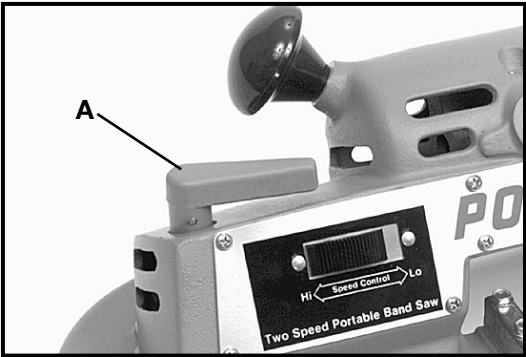

Fig. 3
TO REMOVE BLADE – Turn handle (A), Fig. 3, clockwise to release tension on the saw blade. Remove the blade, first from the pulleys and then from the blade guide.
Turn handle (A), Fig. 3, counterclockwise as far as it will go. This places tension on saw blade.